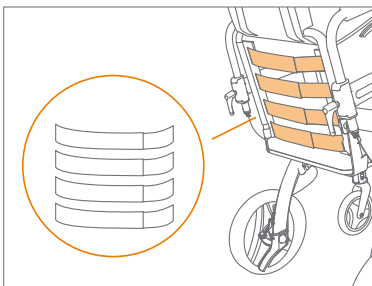

Figure 47: Loosen for more seat depth.
- c. Adjust the straps by pulling off the Velcro and fastening them again to the desired setting (**Figure 47**).